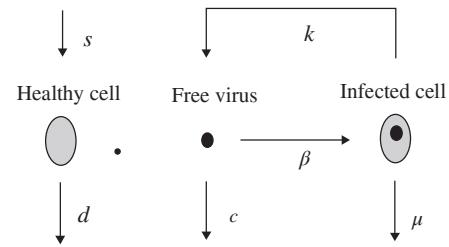

FIGURE P2.3919
67. **Control of HIV/AIDS.** HIV inflicts its damage by infecting healthy CD4 + T cells (a type of white blood cell) that are necessary to fight infection. As the virus embeds in a T cell and the immune system produces more of these cells to fight the infection, the virus propagates in an opportunistic fashion. As we now develop a simple HIV model, refer to Figure P2.39. Normally T cells are produced at a rate  $s$  and die at a rate  $d$ . The HIV virus is present in the bloodstream in the infected individual. These viruses in the bloodstream, called *free viruses*, infect healthy T cells at a rate  $\beta$ . Also, the viruses reproduce through the T cell multiplication process or otherwise at a rate  $k$ . Free viruses die at a rate  $c$ . Infected T cells die at a rate  $\mu$ .